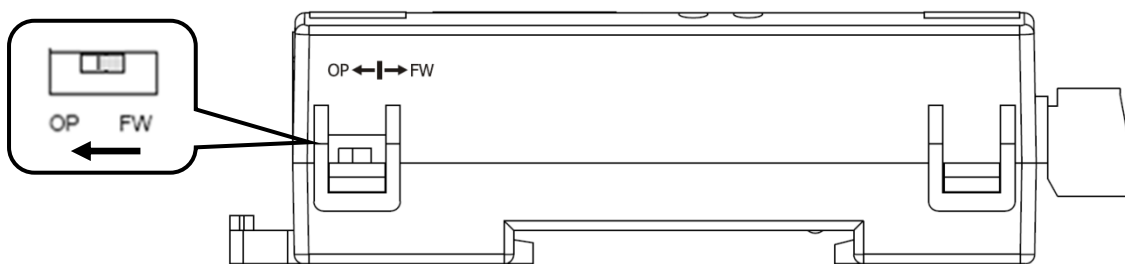

Fig. 2: Push DIP switch to OP position
Push DIP switch to the position of normal operation mode (OP) as depicted in Fig. 2.